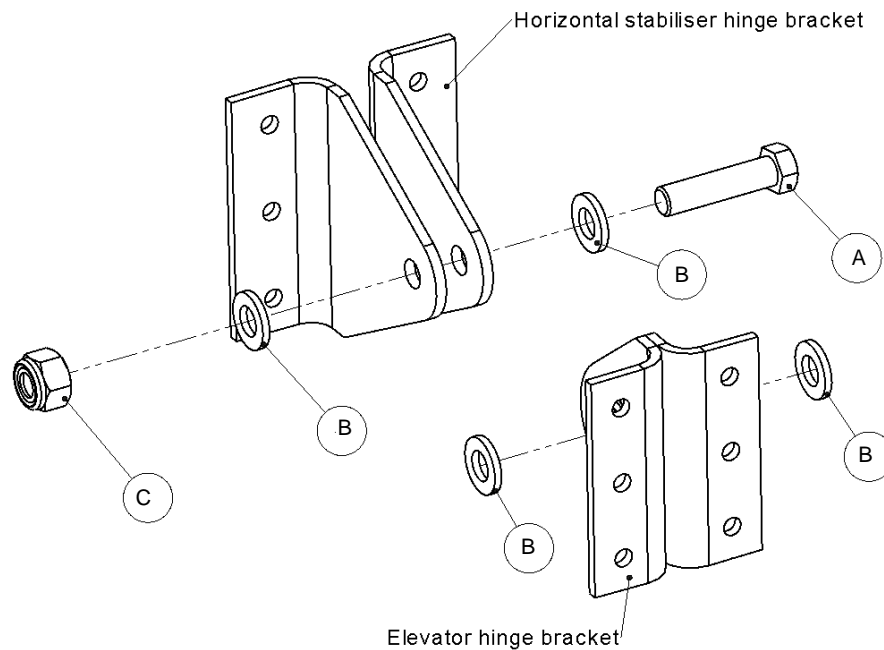

Figure 24: Horizontal stabilizer-to-elevator hinge connection.
- Tighten the lock-nuts on the bolts through the elevator hinges sufficiently. Observe the correct placement of washers (refer to Figure 24). Note that the outer hinge bolts are installed with their heads facing outward, towards the elevator tips and the inner hinge bolts are installed with their heads facing inward, towards the fuselage/ tail cone. The bolt in the centre hinge is fitted with its head towards the larger clearance side of the elevator cut-out.